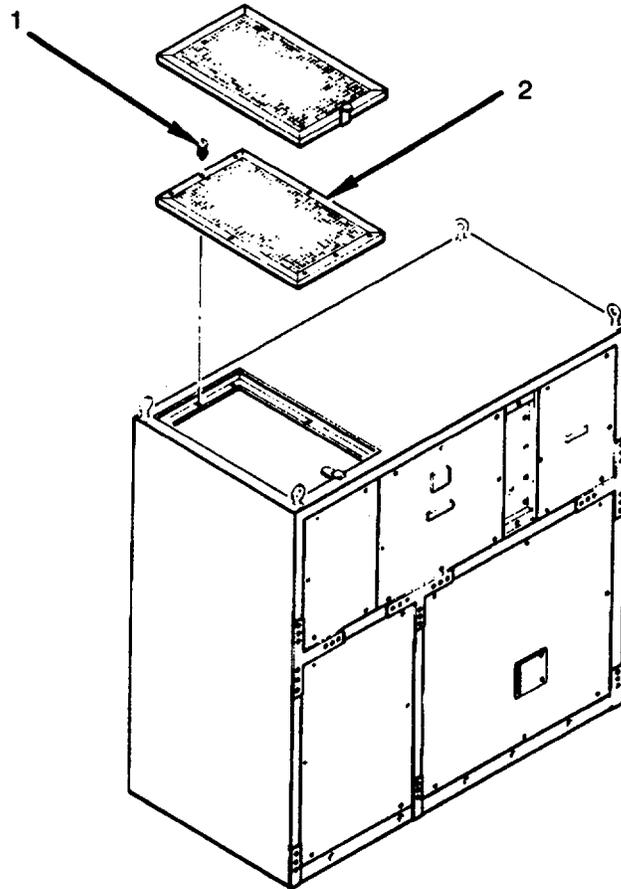

Figure 4-39. Circulating Air in RFI Filter
1. Remove seven screws (1) (see Figure 4-39).
2. Remove filter (2).